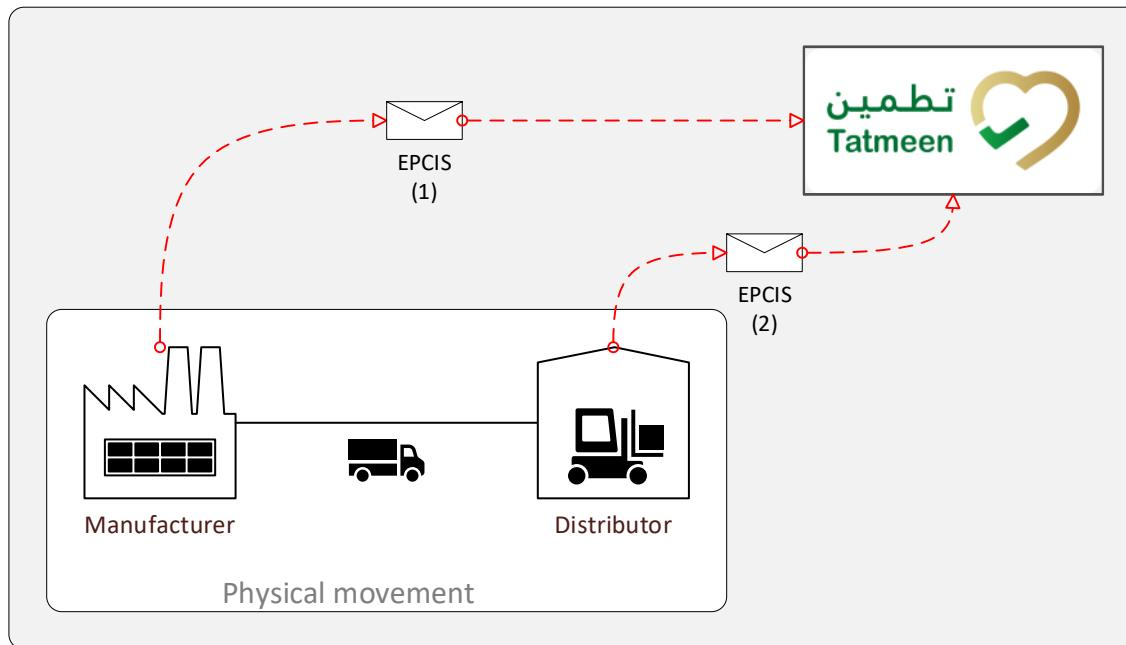

Figure 5 Processing Drugs from Local (Domestic) Manufacturers
This outline refers to Figure 5, above. Note that in the description below there is reference to a Local Sales Permit that is still not in place, however this illustrates the intent.
2. Once the Manufacturer receives the Local Sales Permit and has identified the top-level hierarchy items scheduled for UAE market release, then they must send a single EPCIS message ("EPCIS (1)" in Figure 5) containing the Local Sales Permit reference; commissioning, aggregation and shipping event for the full / partial shipment.
3. Once the local manufacturing EPCIS message is successfully sent to the Tatmeen solution, the products may be shipped from the manufacturer to the local UAE supply chain partner. Note that the EPCIS message (“EPCIS(2)” in Figure 5) is described in the Tatmeen Technical Guide for Logistics and is not described in this document.